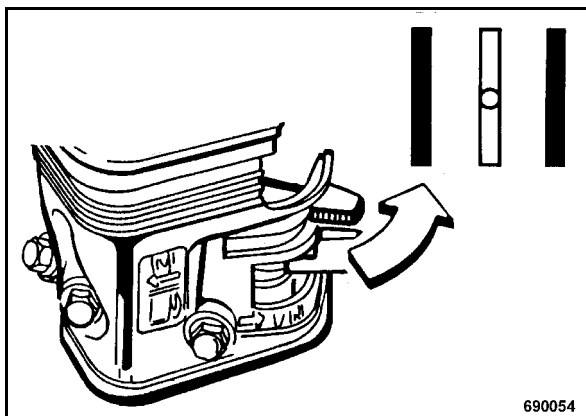

Fig. 20
- As the engine warms up open the lever (Fig. 20) of the choke slowly.